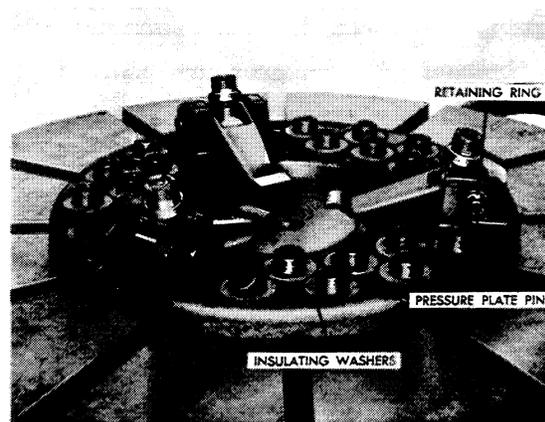

Fig. 2
3. Remove retaining rings and pressure plate pins. Remove release lever assemblies, eye-bolt assemblies and adjusting nuts. Figure 2.